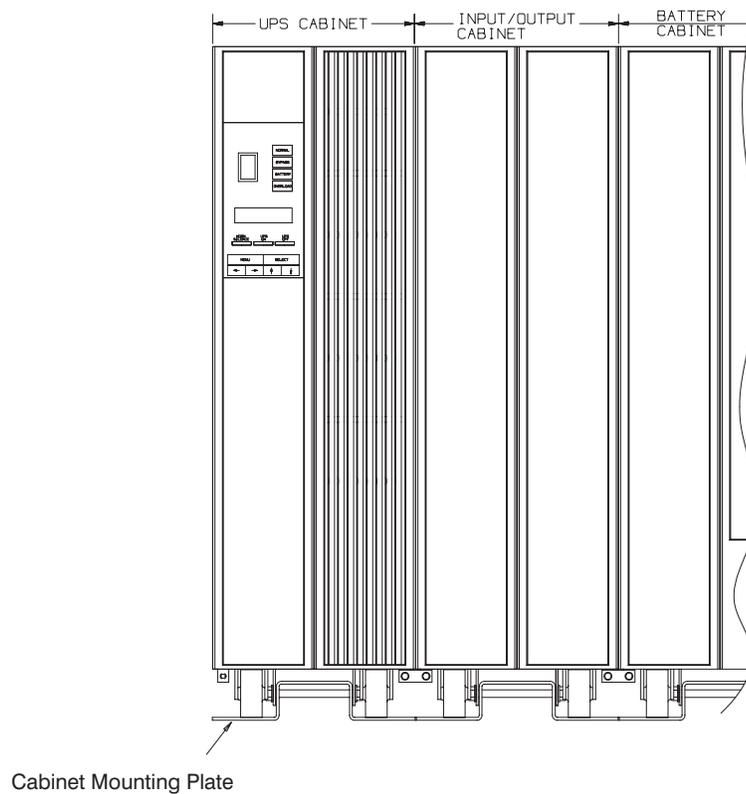

Figure 26. Front View of the Plus 18 UPS with I/O Cabinet
- Position the cabinets into the approximate final operating position with the battery to the right of the UPS cabinet as shown in Figure 26.